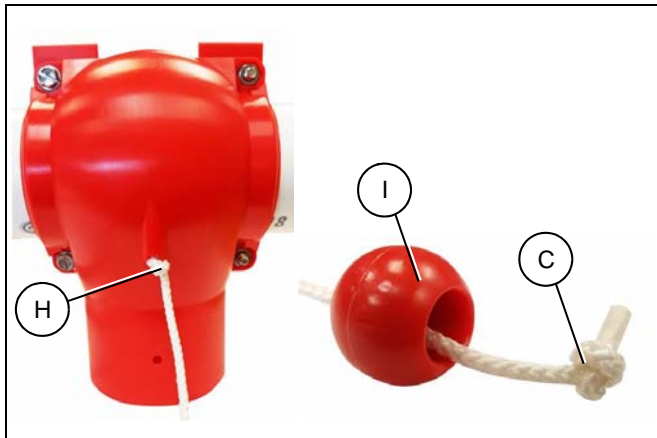

Figure 6J
10. Mark the cord on the opposite side where it enters the guide hole and tie a knot (C). Also, install the red indicator ball (I) at the end of this cord and tie a knot (C). (See Figure 6J.)